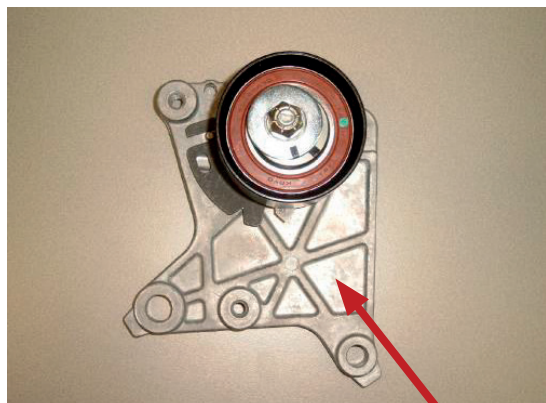
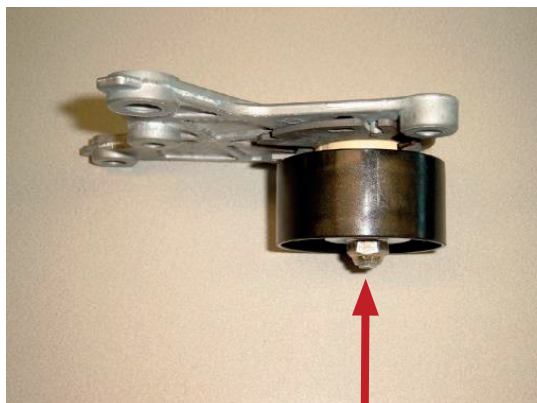

FIG. 4
FIG. 5
The latest version that is now used on OE(S) level replaces the two previous parts. It may be possible that the tensioner on the car is still an older model. There is no problem to install the latest version tensioner with the old stud and nut. Although the depth of the fixing hole (A) of the tensioner is deeper and the stud stays the same, there is still enough room on the stud to fix the nut properly, see Fig. 5 (B).
Fig. 4 and Fig. 5 show the latest version of the tensioner fixed on the bracket.